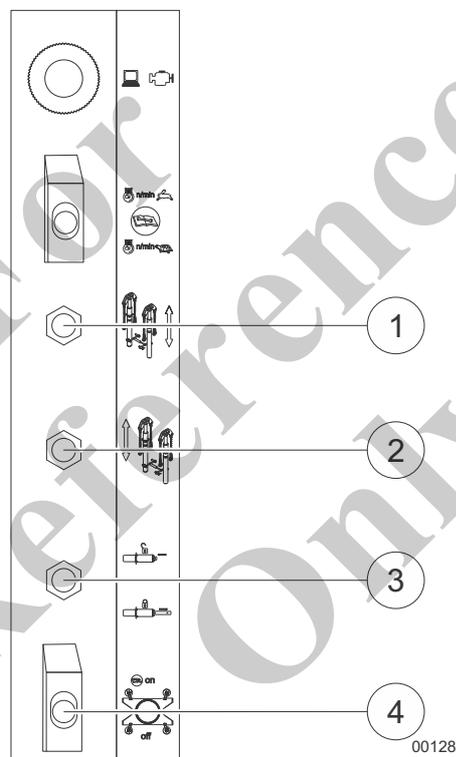

Fig. 257 Emergency control in the switchgear cabinet
2	Push the switches (1) and (2) in Fig. 257 in the switchgear cabinet upward. – The ballasting cylinders are extended.
3	Press the switch (3) in Fig. 257 in the switchgear cabinet upward – The counterweight is bolted.